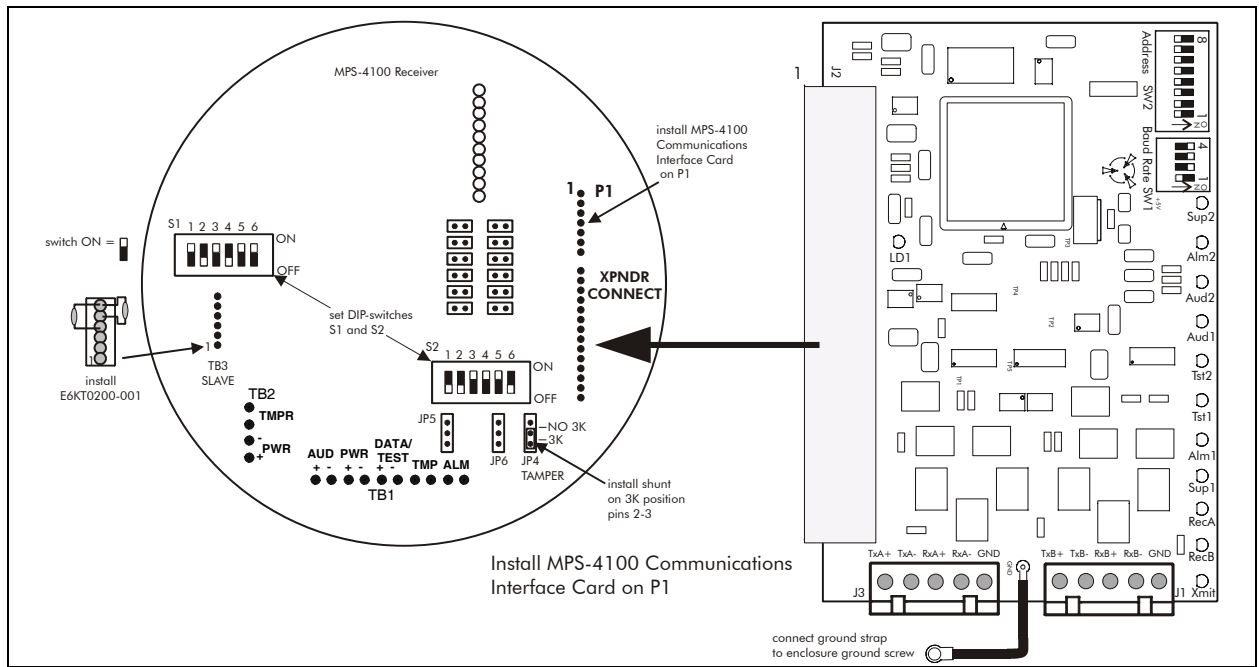

Figure b-5 Installing the Communication Interface Card
1. Connect J2 on the Communications Interface Card to P1 on the Model MPS-4100 Receiver card (see Figure b-5). (The card must be fully installed onto the header.)